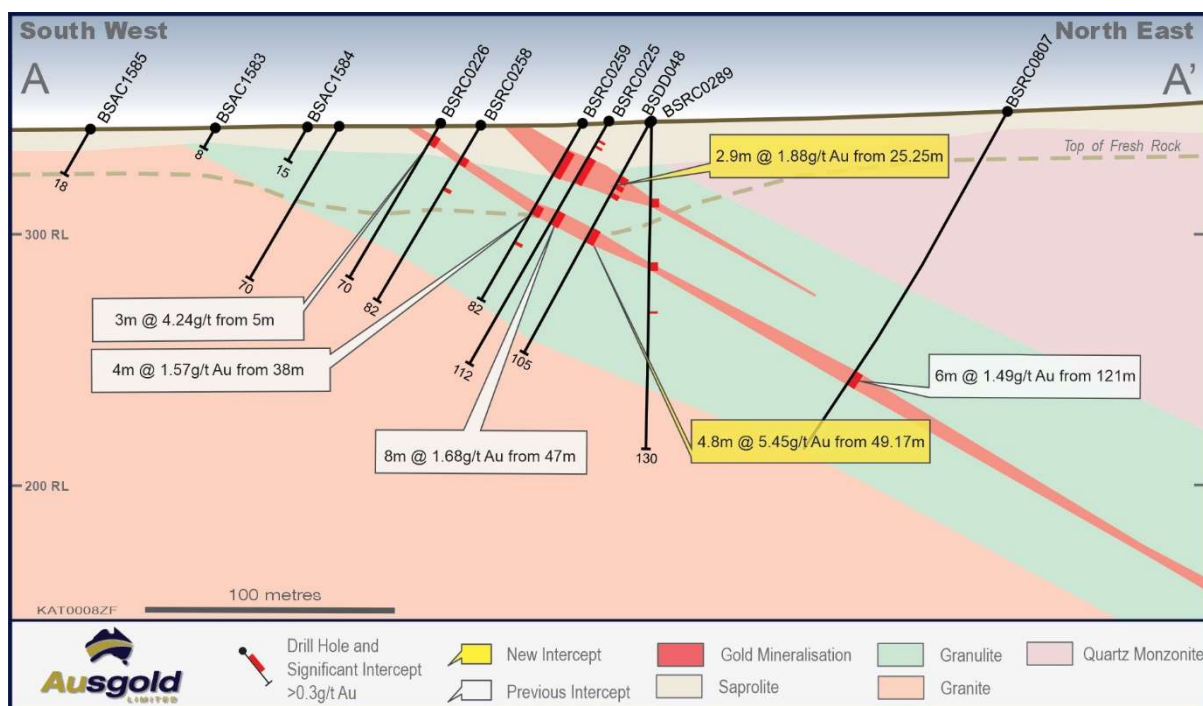

Figure 3 – Jackson Cross-section A-A'
- 4.8m @ 5.45g/t Au from 49.17m including 3.5m @ 7.48g/t Au from 49.4m in BSDD048 (Figure 3)